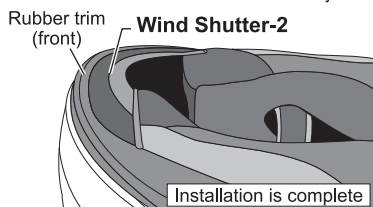

Fig.4
4. Put the interlining so such extent that the edge of the frame rubber is almost flat with the Wind Shutter-2. The attachment of the Wind Shutter-2 is complete (Fig.4).